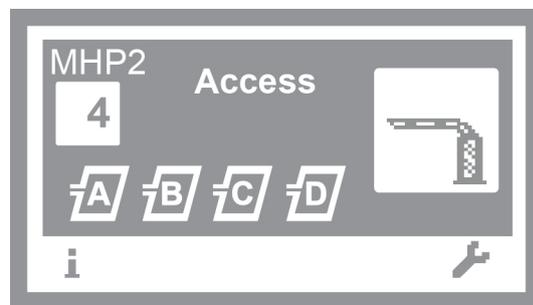

Fig. 1: Example "Operational view"
12. Press the left button  repeatedly until the operating view is displayed again. → Refer to page 22, Fig. 1.